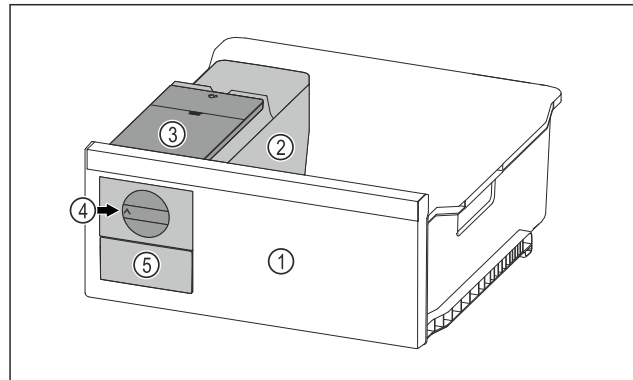

Fig. 150 Example illustration
- ▶ Turn the rotary knob Fig. 150 (4) clockwise as far as it will go.
- ▶ Ice cubes fall from the ice cube tray into the ice cube drawer Fig. 150 (5).